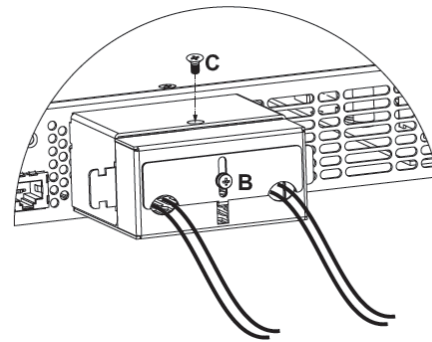

Fig.3-9: Enclosure assembly
7. Assemble the bottom cover enclosure back to it's place, as show in Fig. 3-9, using screw "C", (tightening torque 4.8-5.3 Lb-inch)